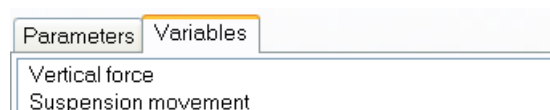

Figure 2.15. Test variables
2. Open a graphic window and drag in it the test variables, Figure 2.15. Lay off the suspension movement as abscissa.